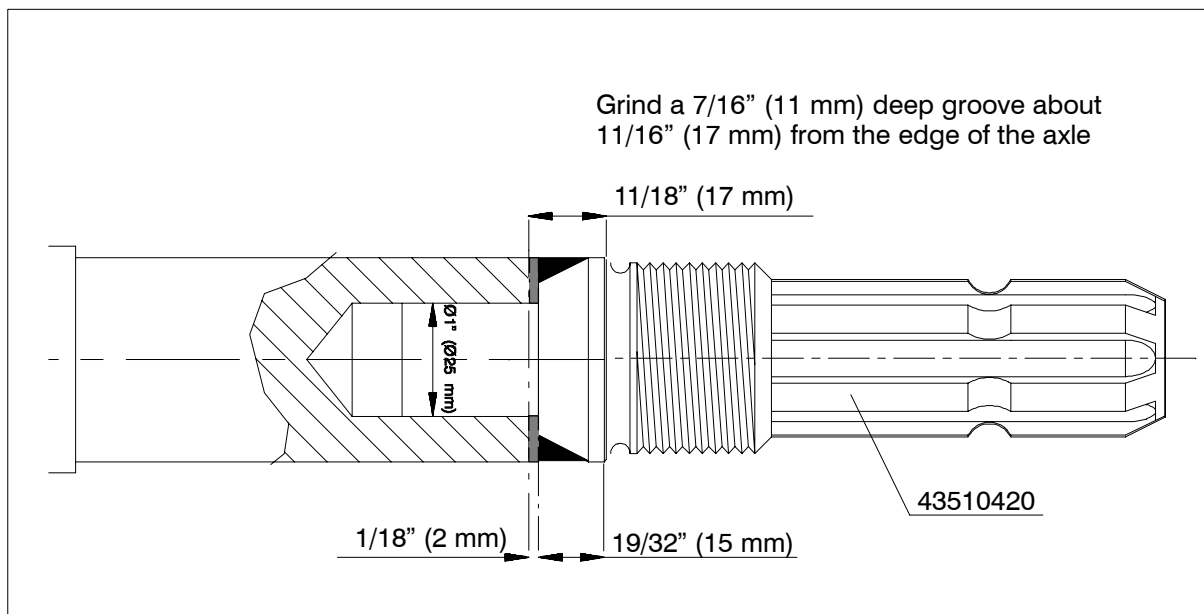

Fig.19.Changing the splined axle.
7.Grind a 7/16" (11 mm) deep groove about 11/16" (17 mm) from the edge of the axle, fig.19.